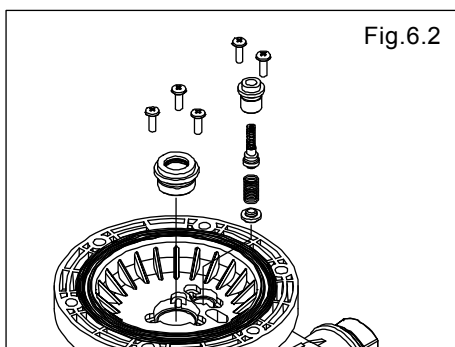

Fig.6.2
- Draw out the valve seats and the pilot valve assembly. (both side) [Fig.6.2]
- Draw out the throat bearings. [Fig.6.2]